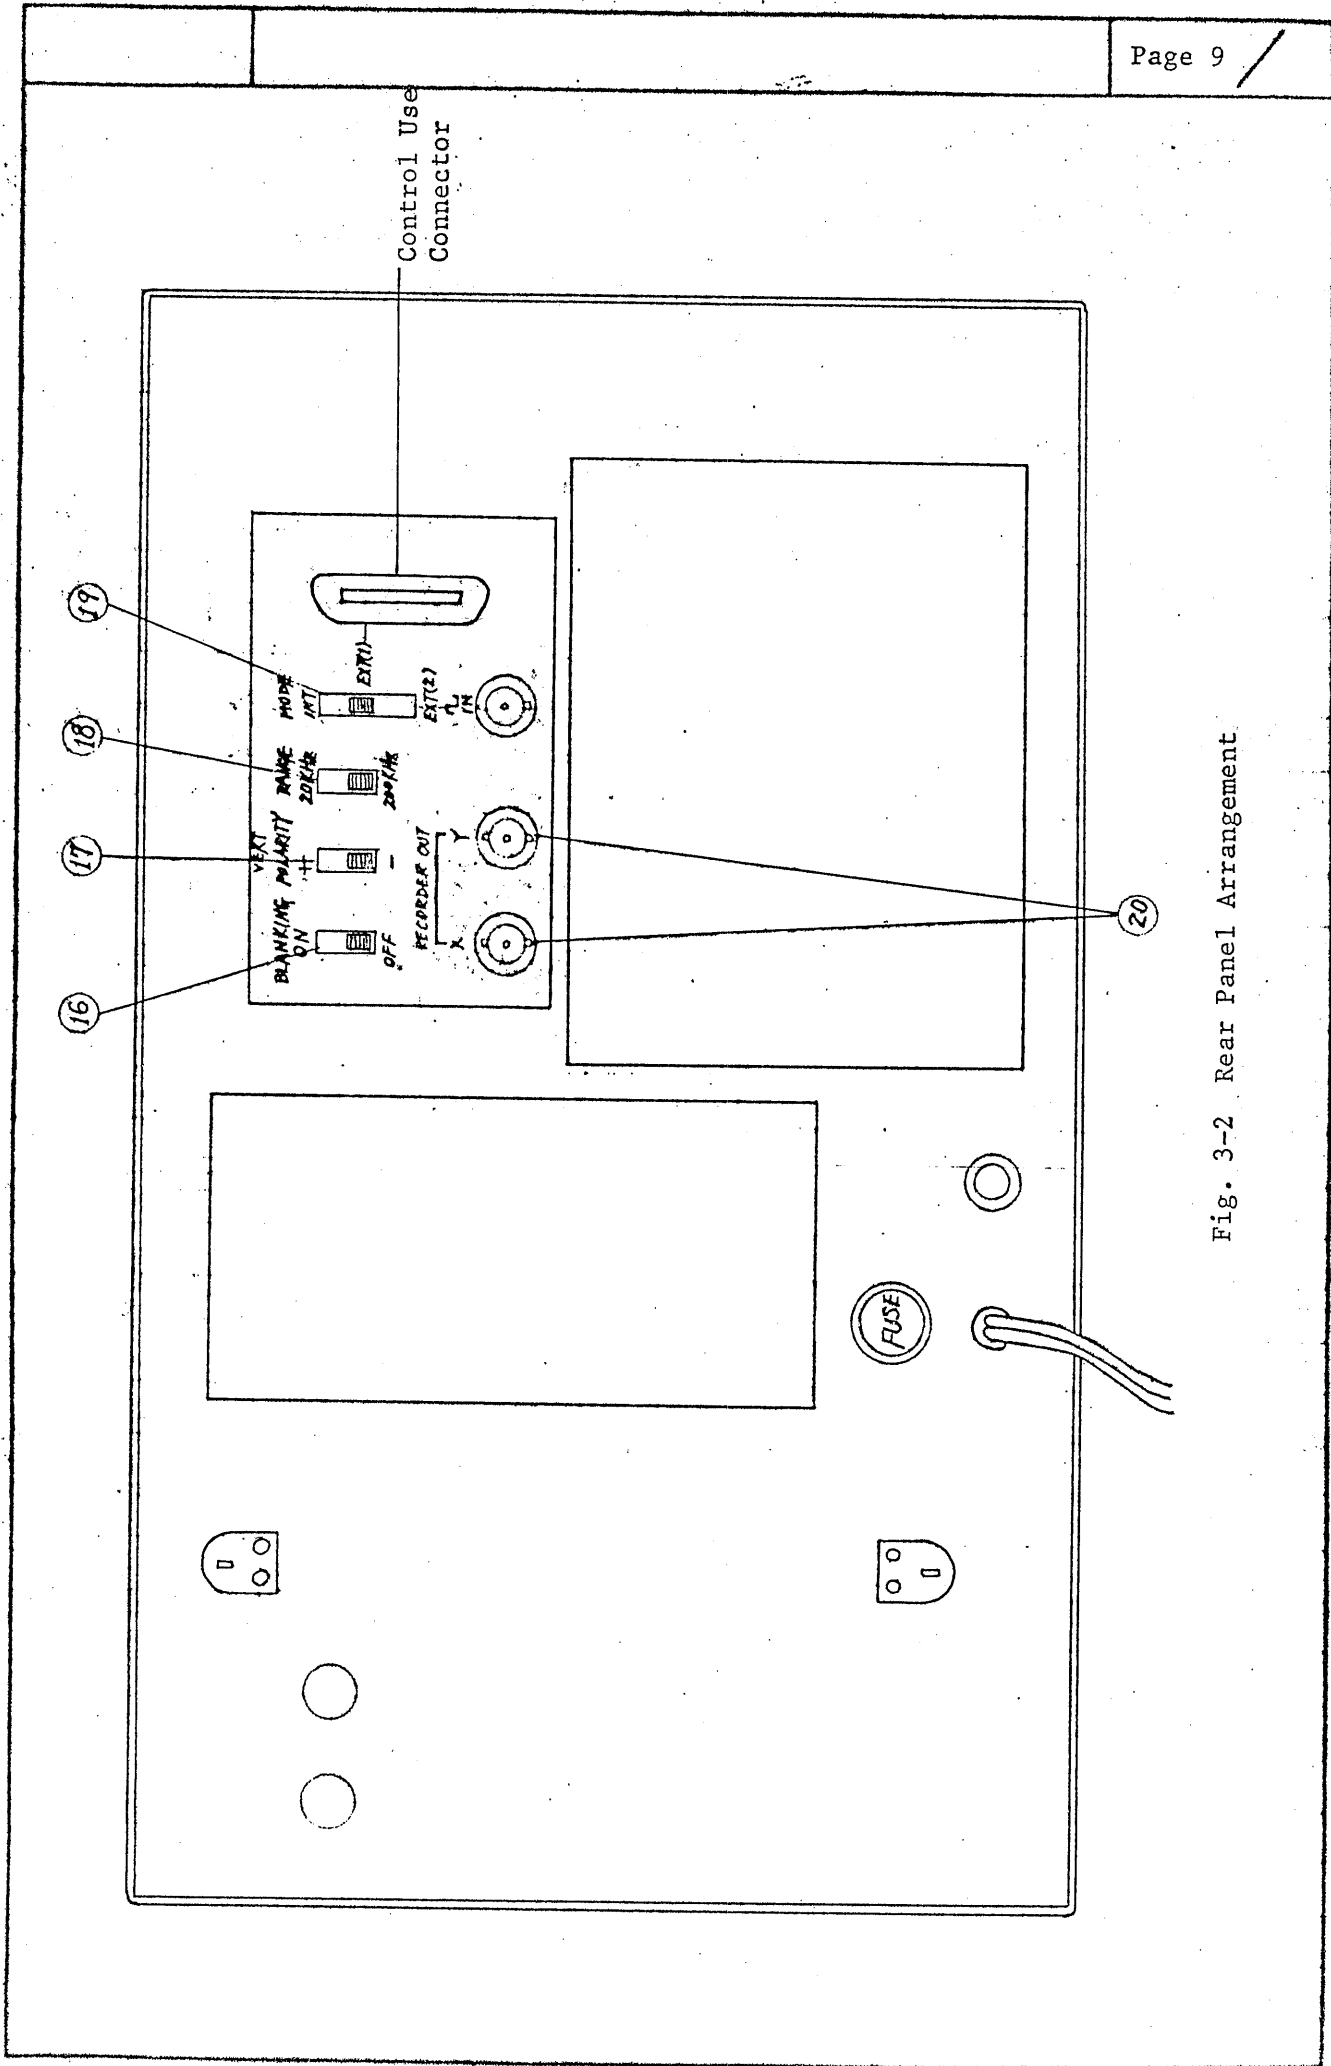

Fig. 3-2 Rear Panel Arrangement
- (14) FINE: Continuous Variable Knob within ranges about variable range from 0 to -10dB. Each range is calibrated in the position of CAL'D. In a case of adjustment by this Knob, effective DYNAMIC RANGE on the surface of C.R.T. shall decrease the value adjusted by the Knob. (Dynamic Range Value - FINE Knob adjusted value)
- (15) INPUT: Input Terminal of 20Hz - 200kHz and +20dB - -100dBm Signals.
- 3-2: DETAILS OF REAR PANEL: Refer to Fig. 3-2
- (16) BLANKING ON/OFF: Blanking ON/OFF Switch